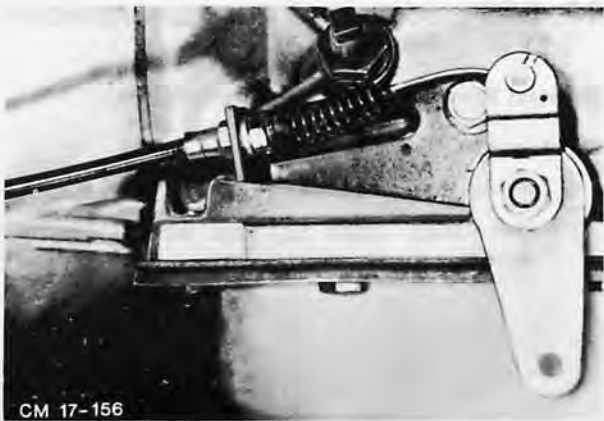

Fig. 61. Fit outer cable to transmission bracket
- 7. Fit outer cable to transmission bracket and install cable, Fig. 61.